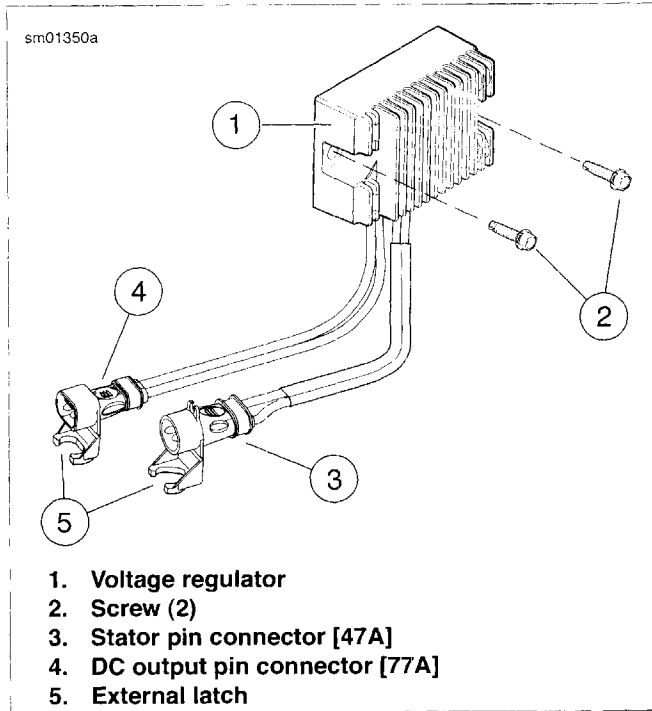

Figure 6-1. Voltage Regulator
See Figure 6-1. The voltage regulator is located between the frame downtubes at the front of the motorcycle. When installing connectors (3, 4) after service, make sure to engage external latches (5) to prevent connectors from separating during vehicle operation.